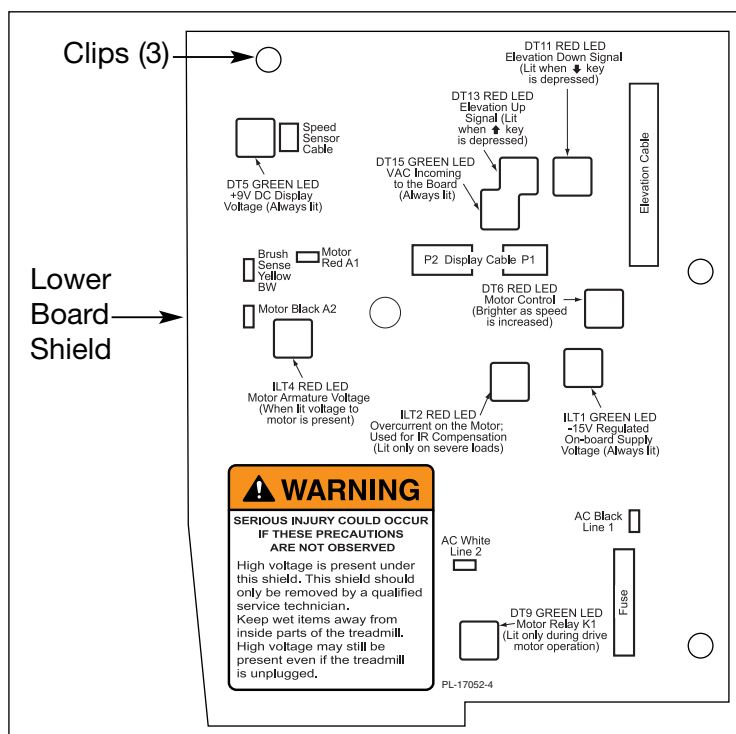

Figure 14
- D. Refer to the lower board shield to confirm the locations for the connectors and check to see that all of the cables are connected firmly. See Figure 14.
- E. Place the lower board shield in position and push the clips down. **NOTE:** The clips will snap in. See Figure 14.